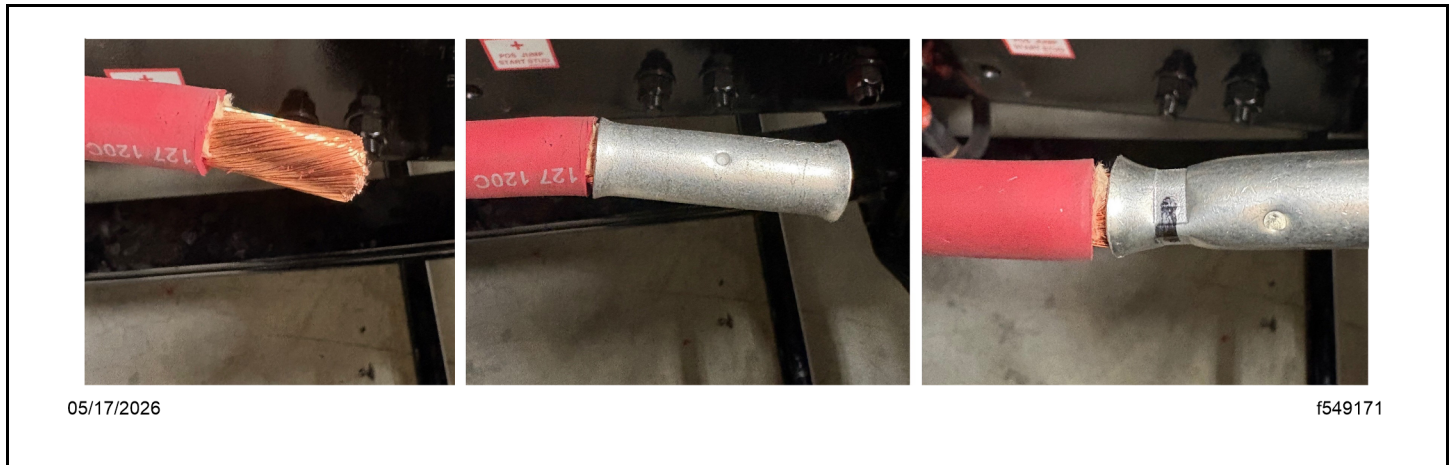

Fig 104, Installing and Crimping the Terminal
20. Crimp the butt connector terminal (PHM 8 2960) on the cable routed to the cab. See Fig. Fig. 104.